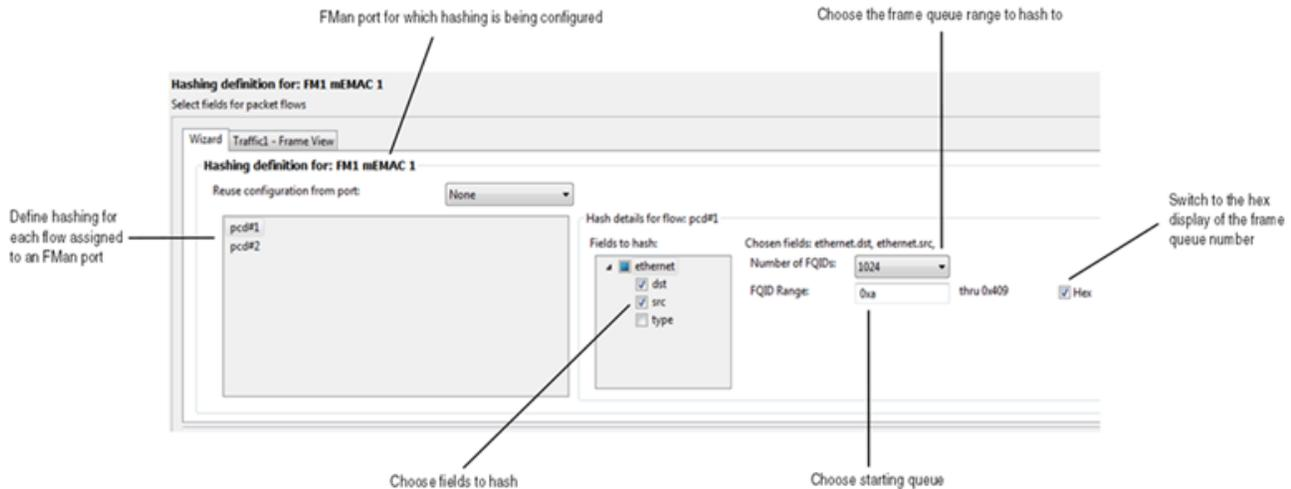

Figure 13. Hashing definition page
- If the flows for one FMan port have been configured, then that configuration can be reused for another port. A menu is available at the top of the H, TL, or PPV page that allows you to reuse the configuration from another port (see Figure 13. Hashing definition page on page 16).
The destination of the traffic matching the hashing key is set by specifying the frame queue range (see Figure 13. Hashing definition page on page 16). When the traffic reaches a frame queue from that range, it will be dequeued to one of the possible destinations (a GPP core, an accelerator, or an FMan offline port). Queue manager (QMan) is responsible for managing the enqueueing and dequeueing of data between FMan, GPP cores, and accelerators. The figure below explains the different actions that can be performed on the hashing page.